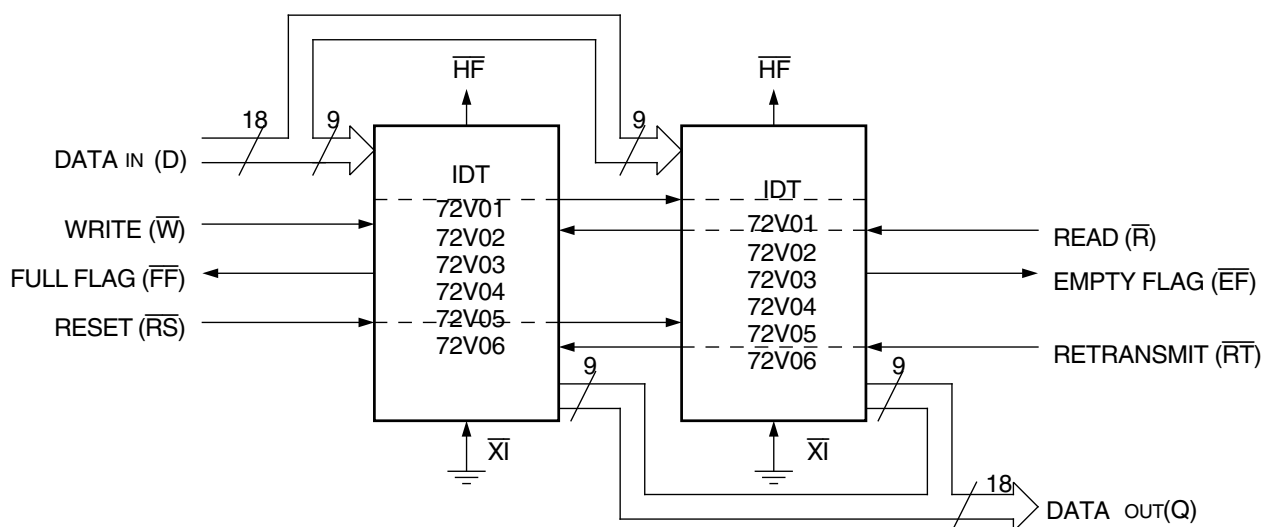

Figure 13. Block Diagram of 512 x 18, 1,024 x 18, 2,048 x 18, 4,096 x 18, 8,192 x 18 and 16,384 x 18 FIFO Memory Used in Width Expansion Mode
Word width may be increased simply by connecting the corresponding input control signals of multiple devices. Status flags ($\overline{EF}$, $\overline{FF}$ and $\overline{HF}$) can be detected from any one device. Figure 13 demonstrates an 18-bit word width by using two IDT72V01/72V02/72V03/72V04/72V05/72V06s. Any word width can be attained by adding additional IDT72V01/72V02/72V03/72V04/72V05/72V06s (Figure 13).
- For Flag detection see section on Width Expansion and Figure 13.